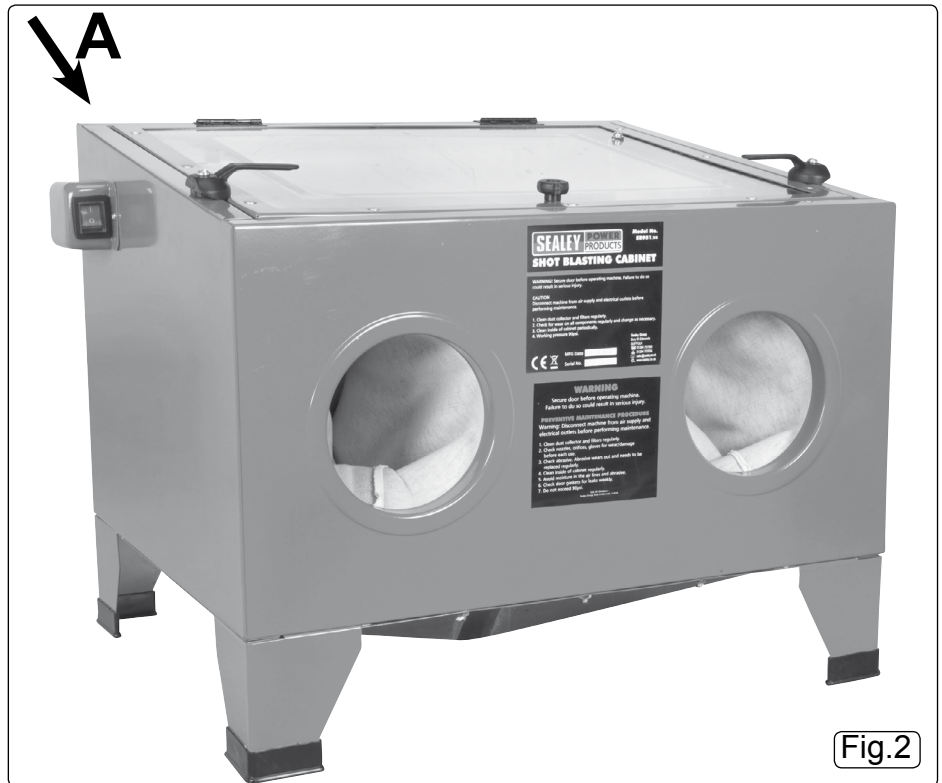

Fig.2
- 4.2.4. Remove blanking plug from rear panel arrow "A" Fig.2.
If dust extraction is not used, media may be forced out of the joints as pressure builds up. You can alleviate this to some extent by removing the white blanking plug (Fig.2) situated on the upper left corner at the rear of the tank when viewed from the front. This however, will not substitute for a suitable dust extraction system.